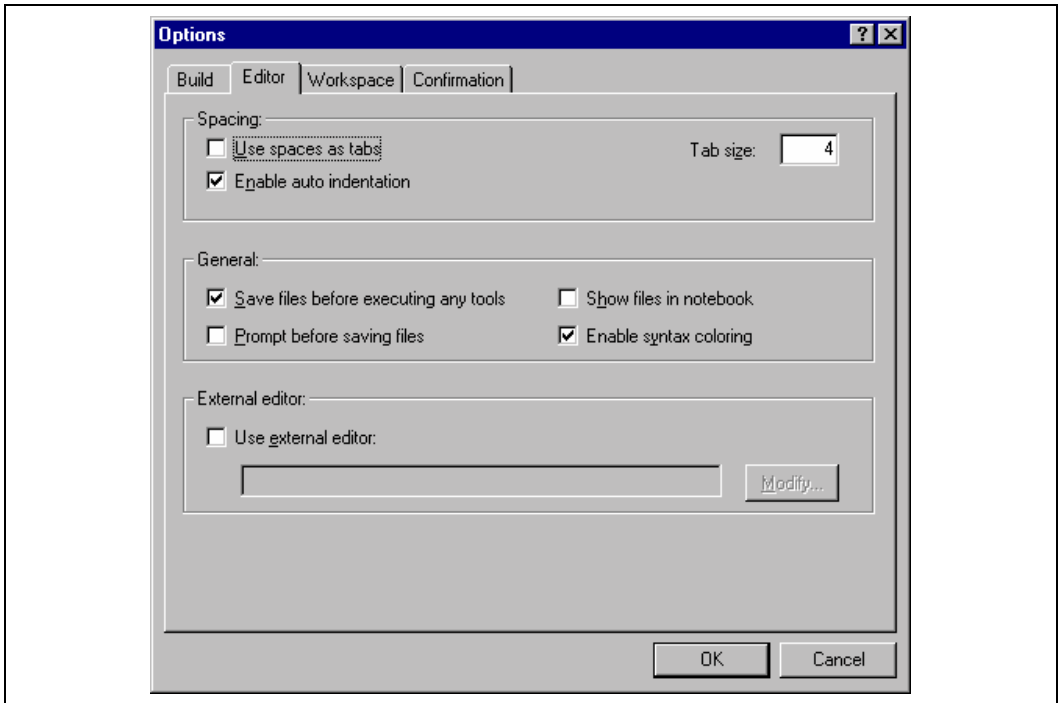

Figure 6.11: Options Dialog Editor Tab
1. Select [Tools->Options...]. The “Options” dialog will be displayed. Select the “Editor” tab (figure 6.11).
The Hitachi Embedded Workshop allows you to customize file save on the “Editor” tab of the “Options” dialog (figure 6.11). To open the tab, select [Tools->Options...] and click the “Editor” tab.